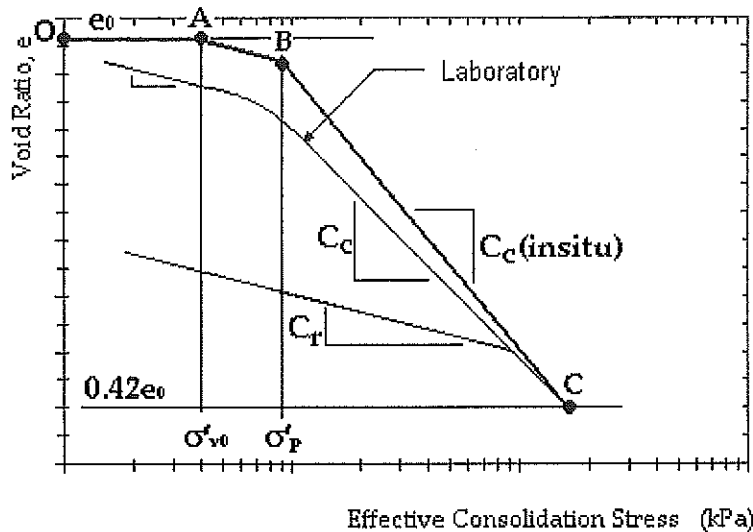

Fig. B2
2. Fig. B2 shows a typical  $e$ - $\log(p)$  curve obtained during the 1-D Consolidation Test. The laboratory curve is used to construct the 'ideal'  $e$ - $\log(p)$  curve (OABC) that represents in-situ consolidation settlements.